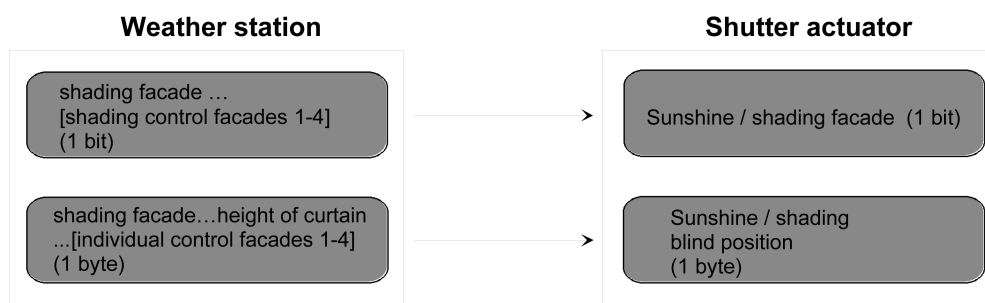

Figure 26: Programming of the communication objects for application example V
- fixed slat position setting.(figure 26)